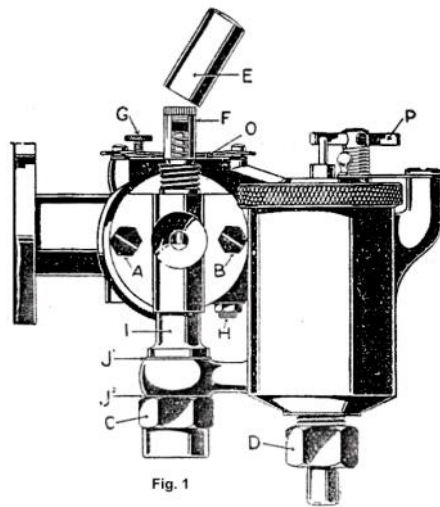

Fig. 1
**See also Figs. 1, 1a, 2 and 4.**
(1) Jet needle adjusting thimble **F**. for correctly setting size of jet to provide best mixture for full throttle.
(2) Jet controlling air ports **K**. size of which are set by rotatable band **L**. For eliminating all trace of flat spots, and providing the correct mixture for clean, powerfully progressive pick-up over the range from closed to full throttle Position of band **L**. has no effect upon mixture when throttle is full open.
(3) Sleeve **M**. for determining quality of mixture for idling engine. Moving forward over slant enriches mixture for slow running or idling engine. Can adversely affect consumption if set too far forward
(4) Main air intake.
(5) Air supply to jet control ports.
(6) Air enters here and passes across jet, thereby producing a finely atomised mixture which again becomes further atomised by air from jet control ports **K**. and again still further atomised upon entering main air stream .
(7) Air strangler for providing rich mixture for easy start from cold.
(8) Fibre packing washers **J1** and **J2**
(9) Jet body nut **C**. for fixing float chamber to jet body and enabling float chamber to be easily detached for cleaning, etc.
See page **9** and **Figs. 1, 1a, and 2.**
Remove the jet needle cap **E.** and inspect the jet needle **F.** (See **Fig. 1.**)